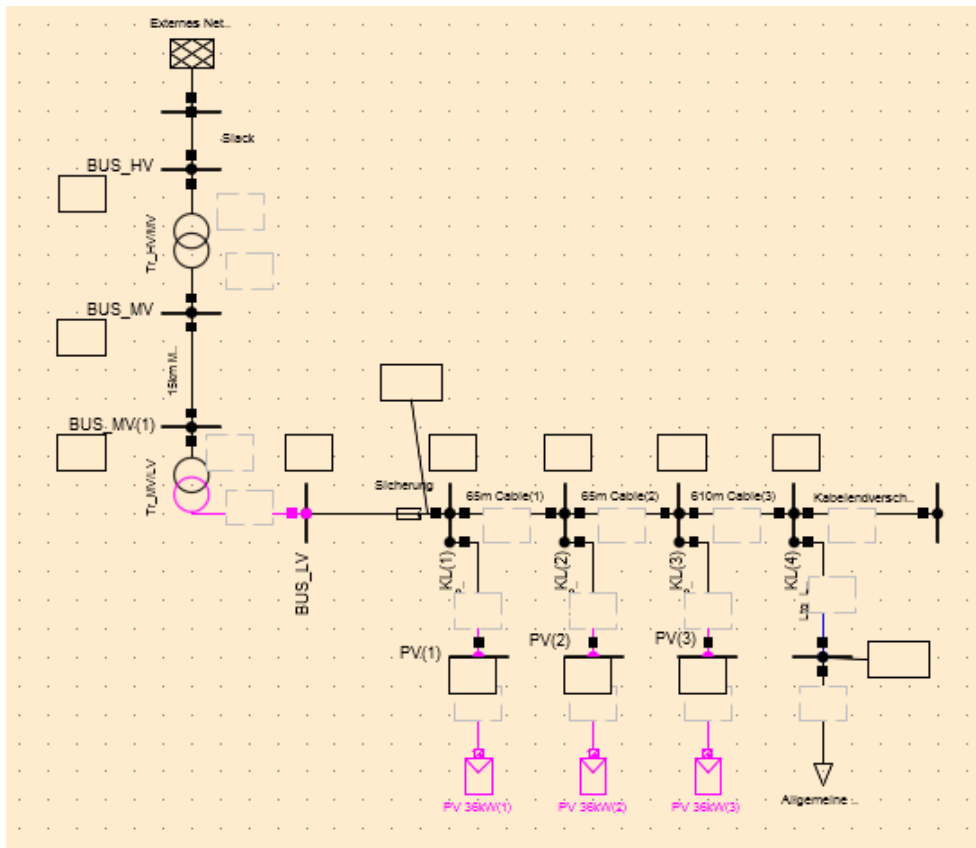
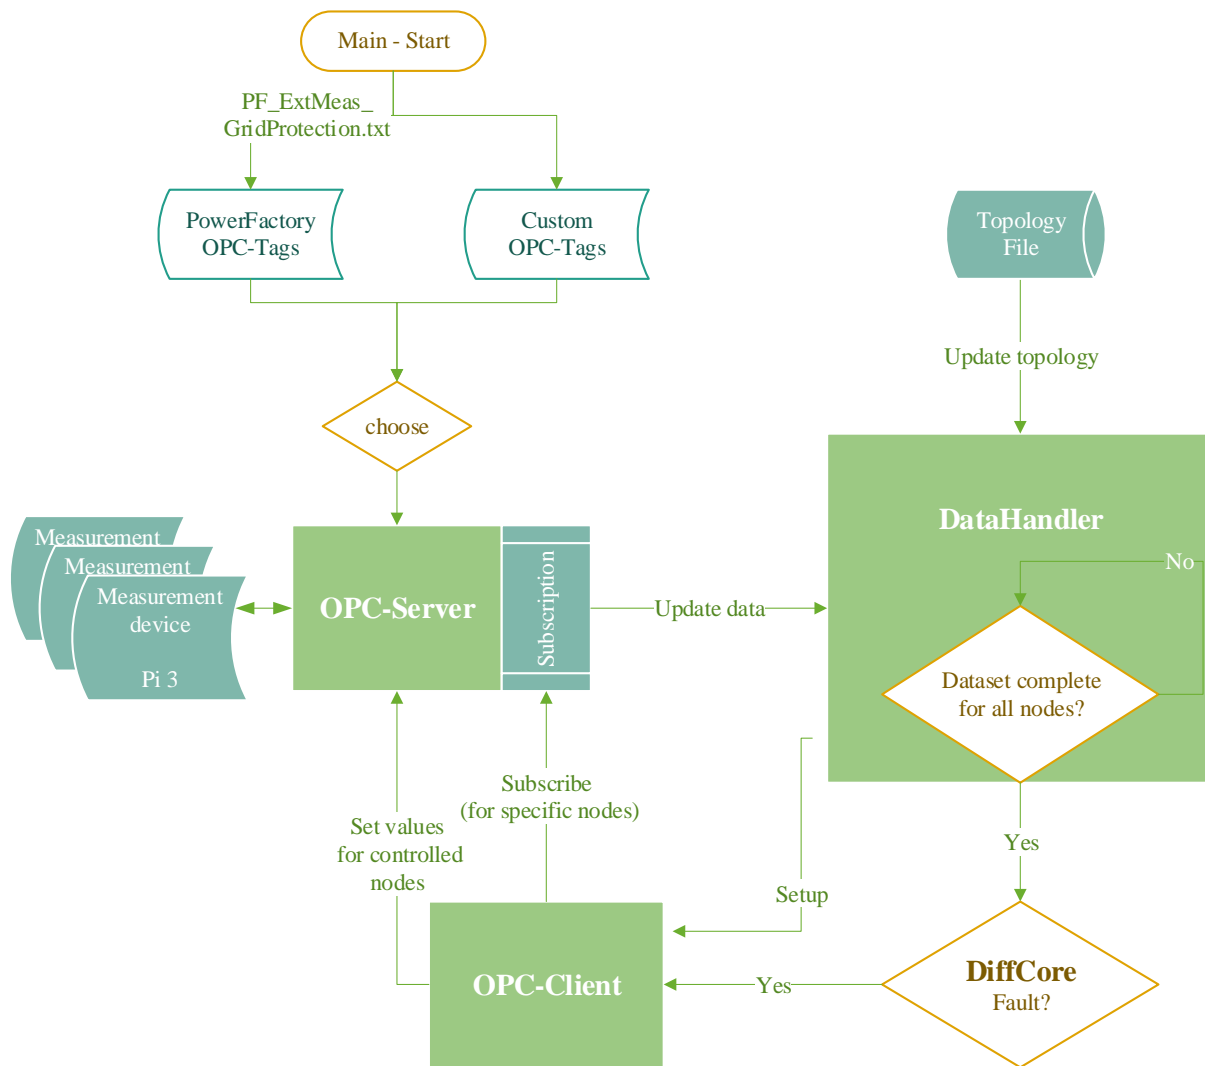

Bild 2: PowerFactory: grid layout ; active external OPC measurement devices are colored in pink
Bild 4: Flow chart for cloud setup; OPC-Client could be replaced by kind of context broker
- you will find a simple LV grid with predefined external measurement devices prepared as OPC-UA nodes (cf. Bild 2)
- after you set up Python stuff (cf. Run main.py), execute (1) and check console for success
- start simulation by (2) and (3) at Bild 4 and p.r.n. minimize the PowerFactory window to let OPC-UA-Link work properly
- when simulation stopped, finished by time, ... check (4) and delete newly created events before start simulation again